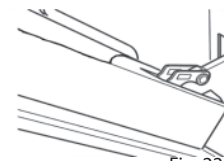

Fig. 22
- Close the door slowly (Figure 22) until the left and right hinge arms A lock on the B part of the door (Figure 22).